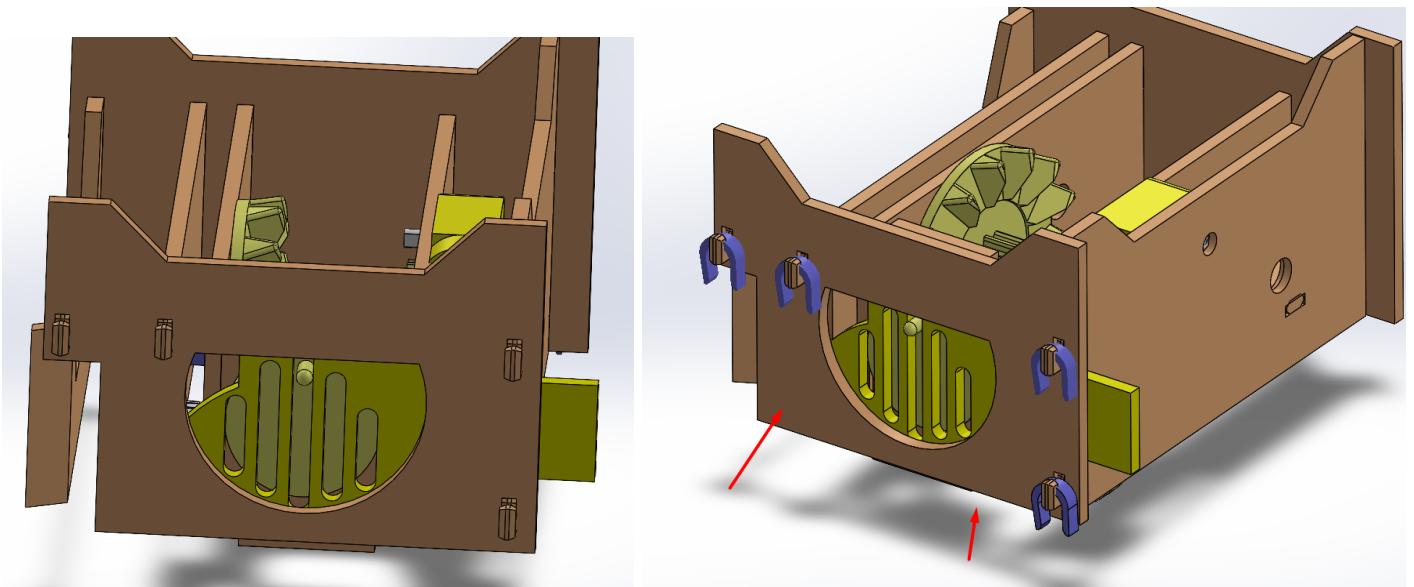

FIGURE 14
STEP 11: The next step is to cover the front with the front wall numbered 10, the pins go through its holes as seen in figure 14, we then take the thin purple pins to pin it in place.